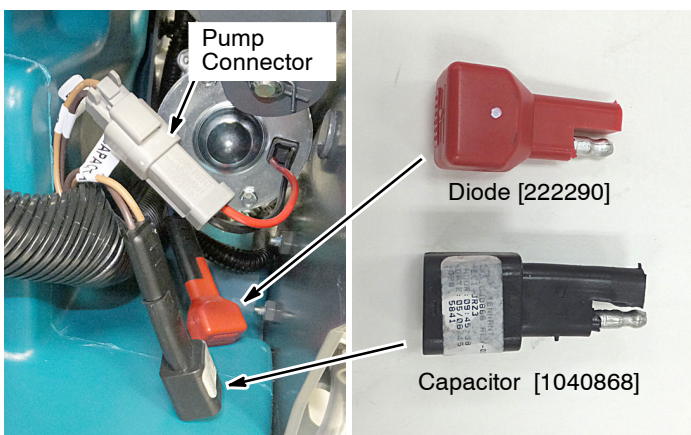

Fig. 28
12. Connect the pump connector to the ec-H2O pump. Plug the capacitor and diode into the machine harness as shown (Figure 28). Secure wire connections with wire-tie.